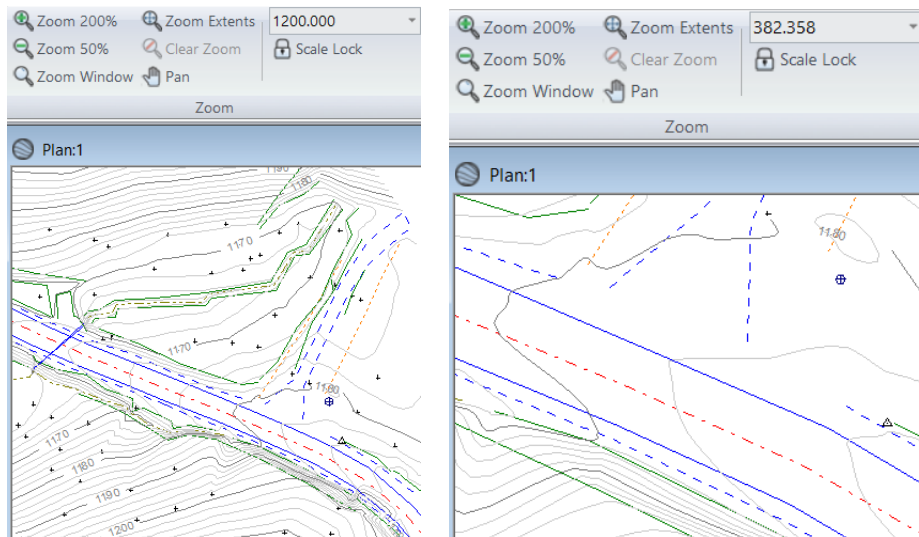

Figure 5-2: Before and After Zoom Operation with Scale Un-locked
11. Practice zooming and panning while you look for interesting features of the model. Note that the scale changes (tool bar) every time you zoom in or out. Also note that the text remains the same size (although this is an option) and that the symbol sizes and line thickness remain unchanged (Figure 5-2).